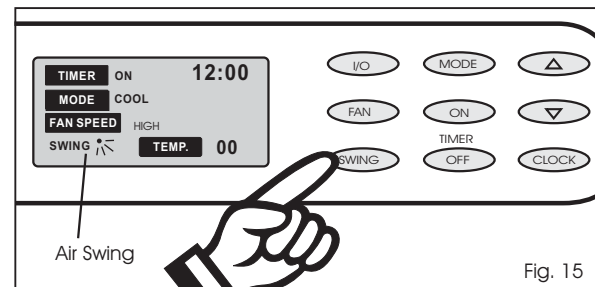

Fig. 15
- 6) Press the **SWING** key to activate the automatic air swing (oscillating )feature (the "air swing" symbol will appear in the **LCD** window ). Fig. 15. To deactivate the air swing feature, press the **SWING** key again.